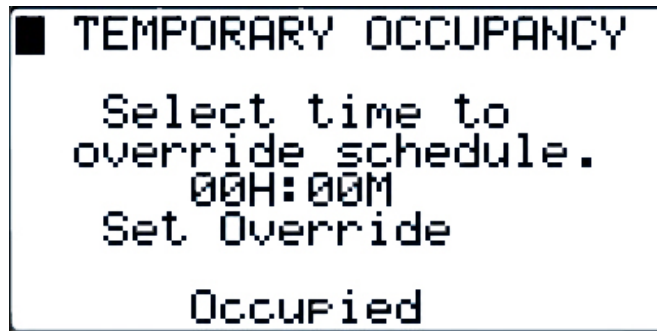

Figure 15
2.3.2.5 Temporary Occupancy (Figure 15)